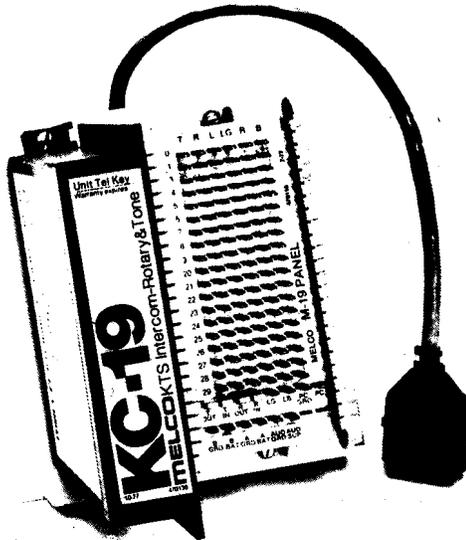

Fig. 1
1.01 This Section describes the physical and functional characteristics of the M-19 Modular Panel (see Fig. 1). General installation and maintenance information is also included.